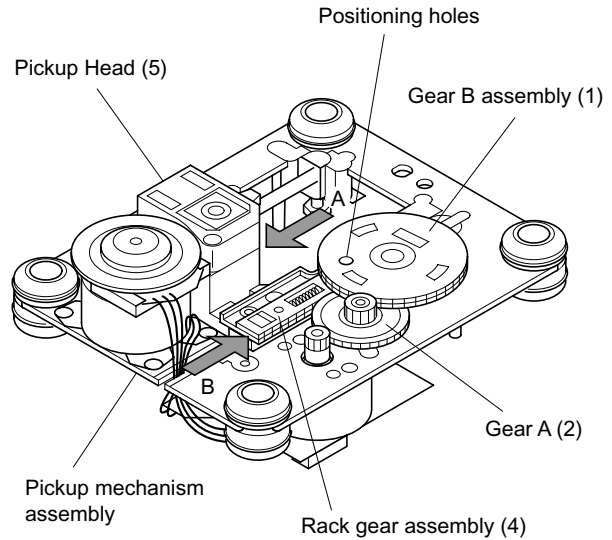

Fig. 2-1-19
2. Mount the gear B assembly (1) by pushing the pickup head (5) to the disc motor side (arrow A direction) and shifting the upper gear of the rack gear assembly (4) in the arrow B direction. (Refer to Fig. 2-1-19.)